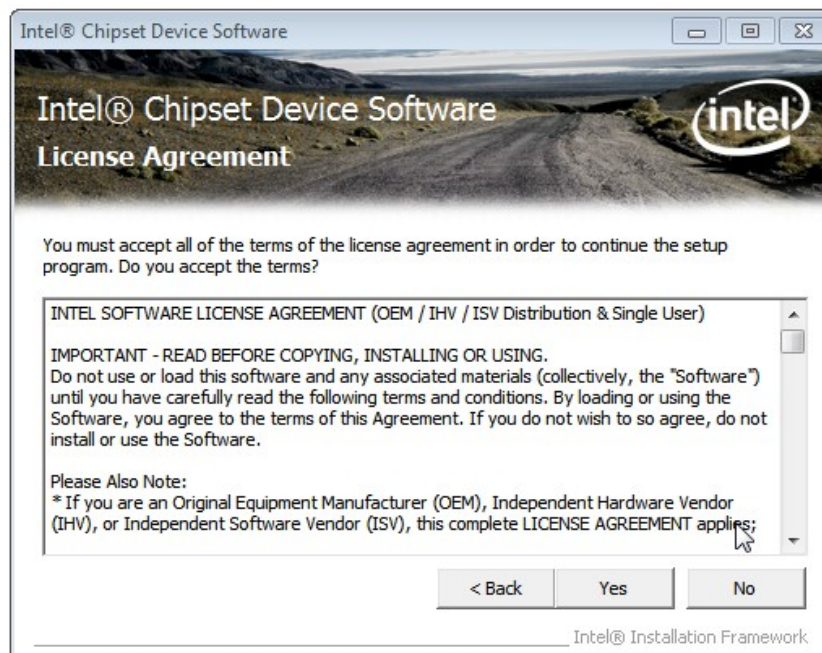

Figure 6-5: Chipset Driver License Agreement
Step 9: The license agreement in **Figure 6-5** appears.